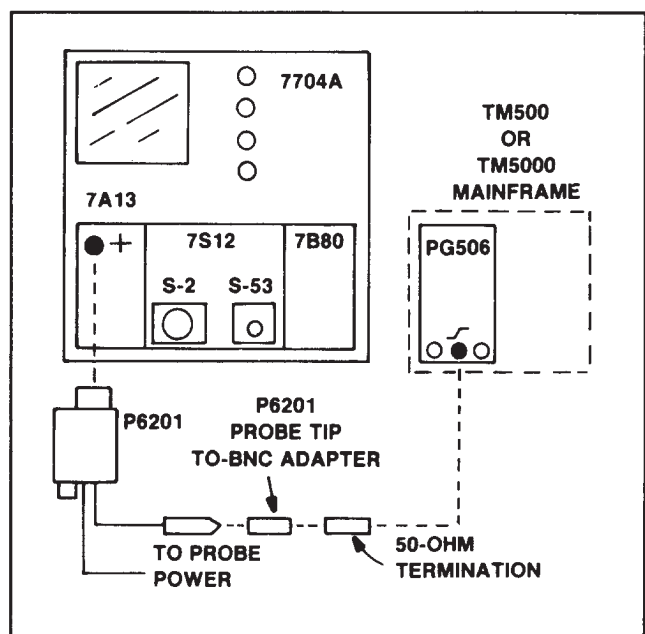

Fig. 5-3. Setup for testing with real-time oscilloscope.
- a. Connect the P6201 and equipment as shown in Fig. 5-3.
a. Connect the P6201 and equipment as shown in Fig. 5-3 with the P6201 10X (or 100X) attenuator on the probe tip.